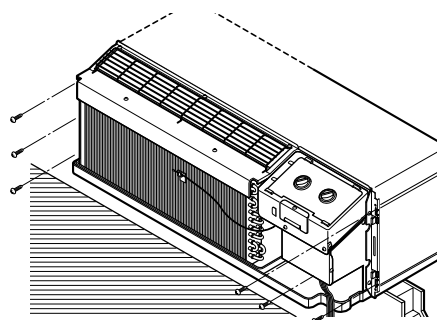

Figure 19
3. Slide the unit into the wall sleeve and secure with 6 screws through the unit flange holes. (See Fig. 19)